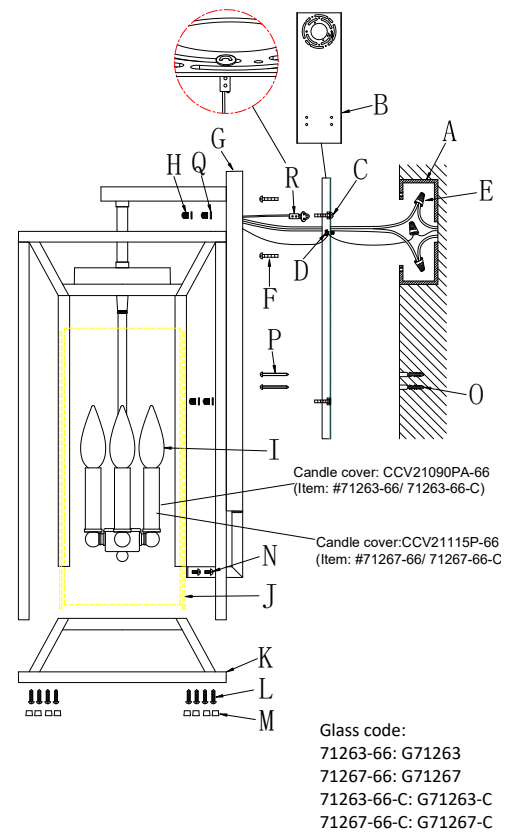

Fig.2
CONNECTING THE WIRES (Fig. 2)
6. Connect the electrical wires as shown in Fig 2. with connectors (E), making sure that all wire connectors are secured. If your outlet box has a ground wire (green or bare copper), connect fixture's ground wire to it. Otherwise, connect fixture's ground wire directly to mounting plate (B) using the green screw (D) provided.